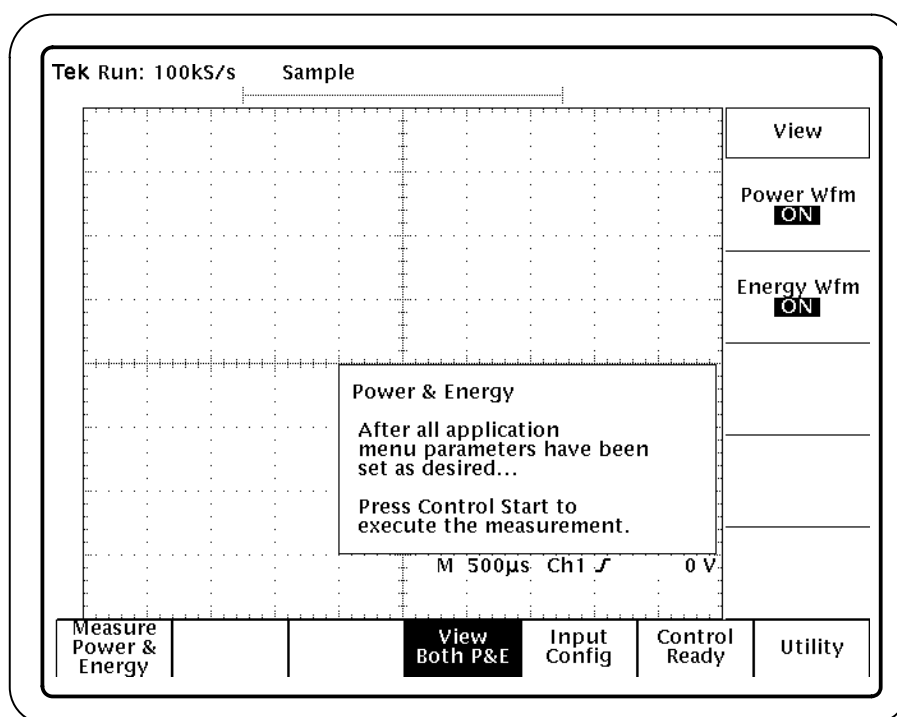
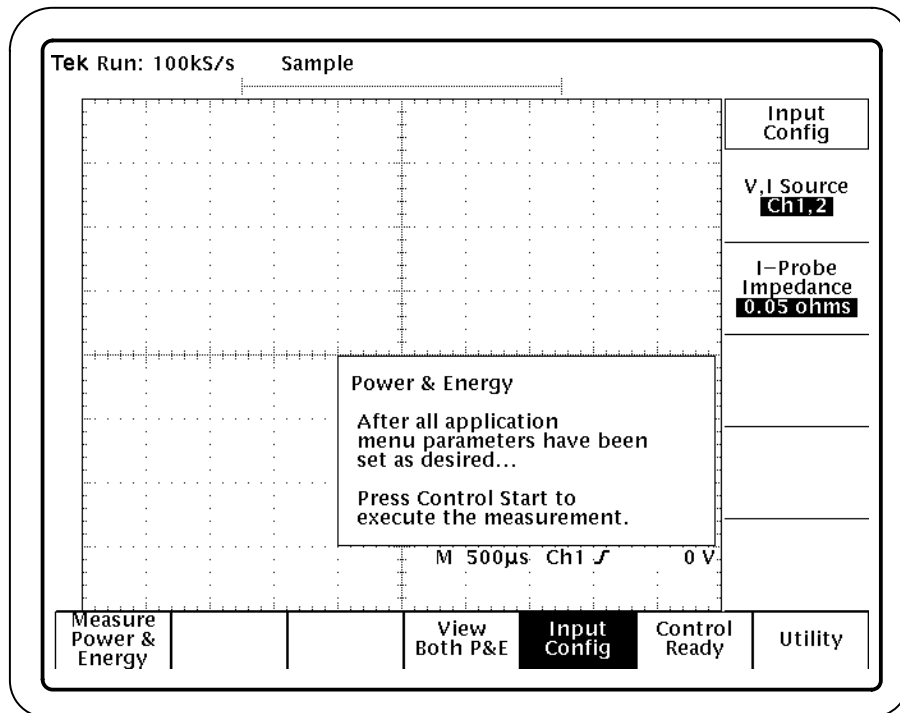

Figure 28: Power & Energy View menu
Figure 29: Power & Energy Input Config menu
To set up the Power and Energy mode, refer to Figure 28, Figure 29, and follow these steps:
1. Press View (main). You can use the View menu to define what measurement to display: power, energy, or both power and energy. Figure 28 shows the View menu.
2. Press Input Config (main). You can configure the source of input data and the probe impedance, if need be. A TekProbe, such as the TCP 202, does not require an impedance value. Figure 29 shows the Input Config menu.